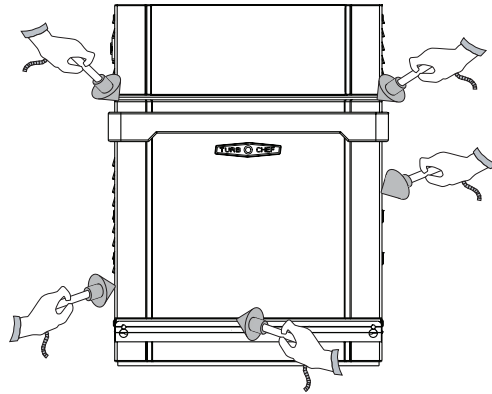

Figure 76: Survey Meter Placement
5. Measure microwave emission around the door slowly as shown in Figure 76, moving the meter sensor at 0.5 inches/second.